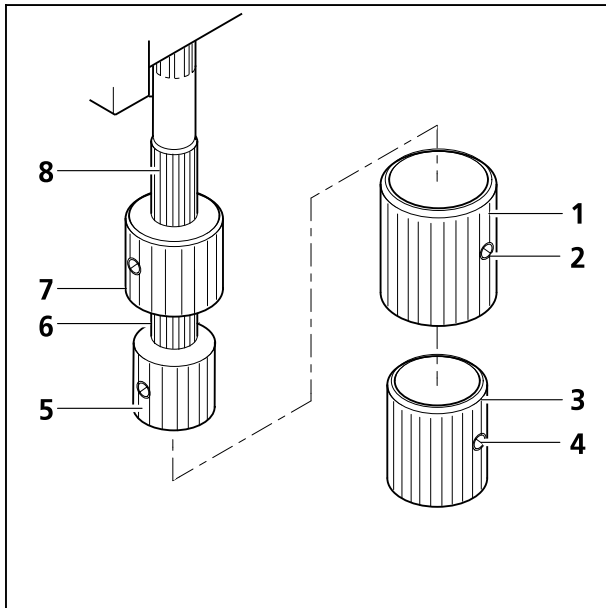

Fig. 3-13 Adjusting ergonomic drive
- Loosen both clamping screws (Fig. 3-13/4) on the lower additional sleeve (Fig. 3-13/3) and remove them by pulling them down. Then loosen both clamping screws (Fig. 3-13/2) on the upper additional sleeves (Fig. 3-13/1) and remove them by pulling them down as well.
(5) Adjusting the friction (smoothness of operation) on both gear knobs of the ergonomics
- Remove the additional sleeves (Fig. 3-13/1 and 3) from the gear knobs by loosening the clamping screws.
- Shift the X-gear knob (Fig. 3-13/5) downward and the Y-gear knob (Fig. 3-13/7) upward.
- Hold the X-gear knob (Fig. 3-13/5) and turn the light colored knurled ring above it (Fig. 3-13/6) to the right (increased smoothness) or left (decreased smoothness) until you reach the desired degree.
- Hold the Y-gear knob (Fig. 3-13/7) and turn the light colored knurled sleeve above it (Fig. 3-13/8) to the right (increased smoothness) or the left (decreased smoothness) until you reach the desired degree.